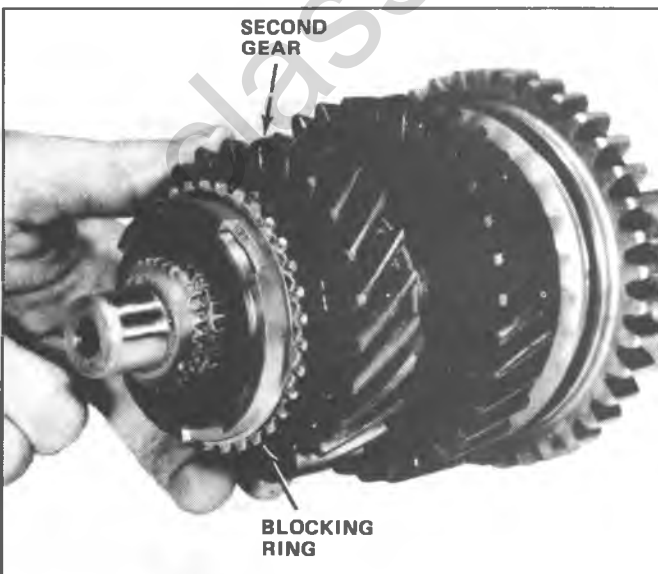

Fig. 7B-19B—Installing Second Gear
6. Place second gear blocking ring on tapered surface of gear and install second gear on output shaft with tapered surface of gear facing front of output shaft (Fig. 7B-19B).